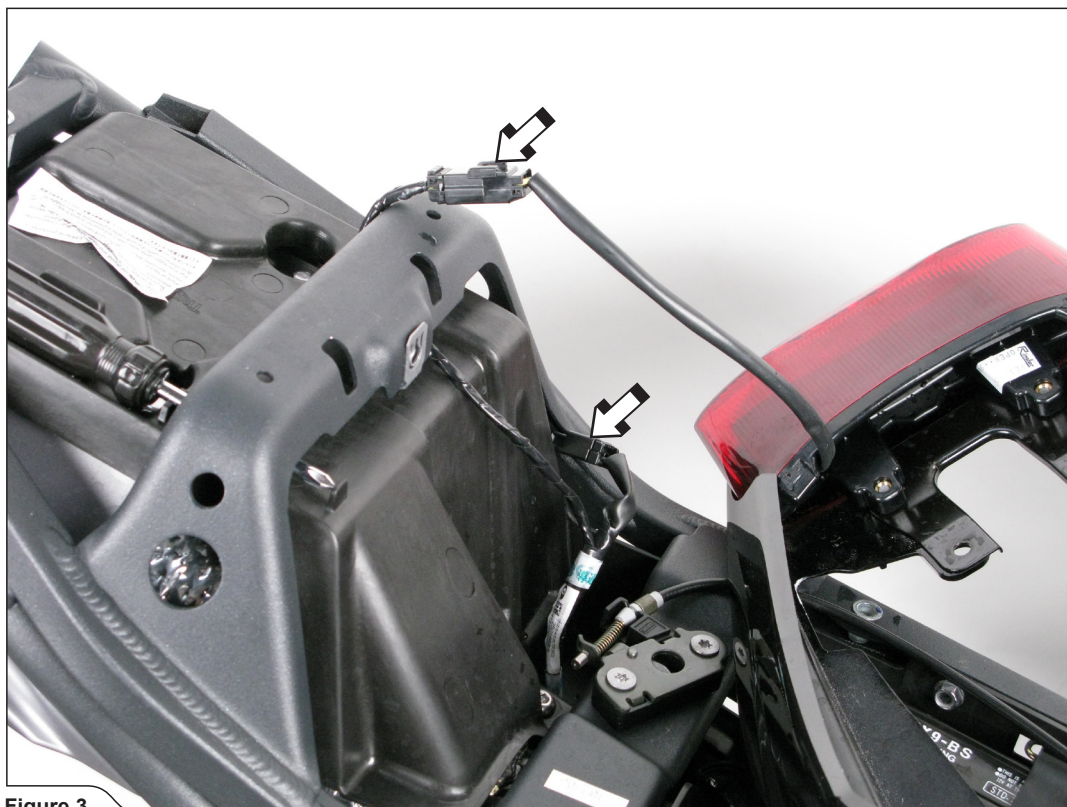

Figure 3
4. Disconnect the marked electrical connectors and remove the seat cowling off the motorcycle (Figure 3).